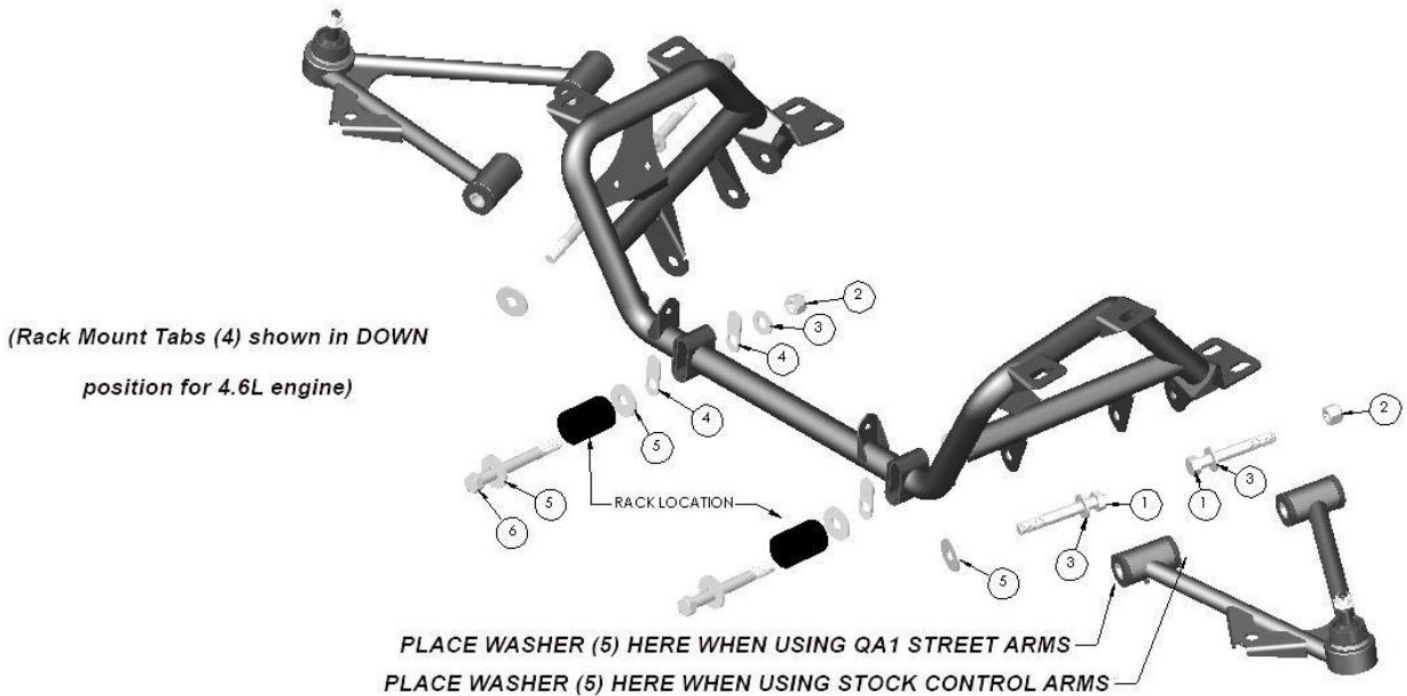

Figure 3
2. Install the control arm into the K-member on each side of the car. If installing control arms into QA1 k-member, see **Figure 3** or refer to your k-member instructions for correct washer placement.